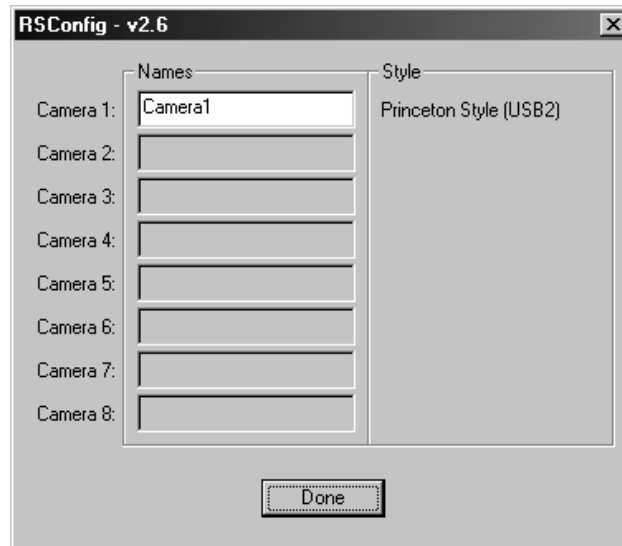

Figure 2. RSConfig dialog box
3. When the RSConfig dialog box (Figure 2) appears, you can change the camera name to one that is more specific or you can keep the default name "Camera1". When you have finished, click on the **Done** button.